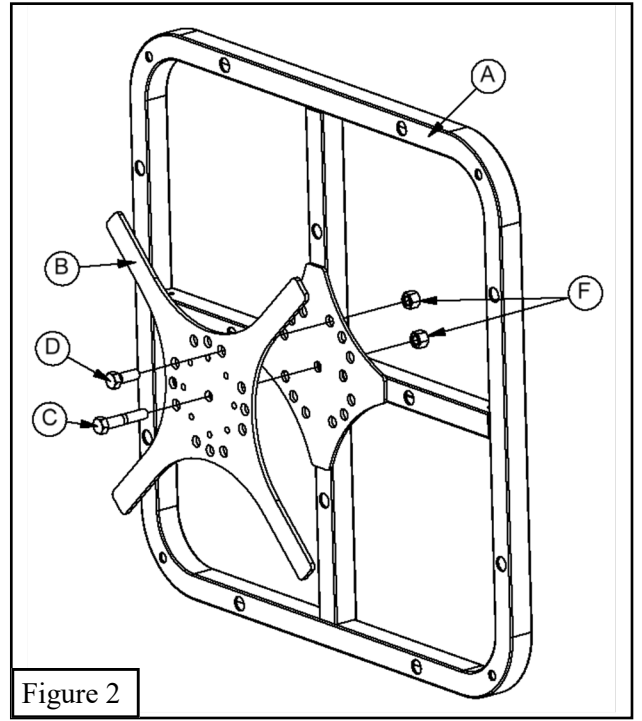

Figure 2
2. Assemble *Lock Plate* (B) to *Cart End* (A) using a *3/8" X 2" Hex Bolt* (C) through the center hole and a *3/8" Lock Nut* (F), do not fully tighten. Rotate *Lock Plate* (B) so the "legs" are at a 45° angle in relation to the cross tubes on the *Cart End* (A). Secure the *Lock Plate* (B) in this position using a *3/8" X 1" Hex Bolt* (D) and a *3/8" Lock Nut* (F) through an aligned hole through the *Lock Plate* (B) and the *Cart End* (A), fully tighten hardware. Install the *Casters* (G) to this *Cart End* (A) using the *3/8" Lock Washers* (H) and *3/8" Lock Nuts* (F) making sure the *Lock Plate* (B) is facing up. See Figures 2 & 3.